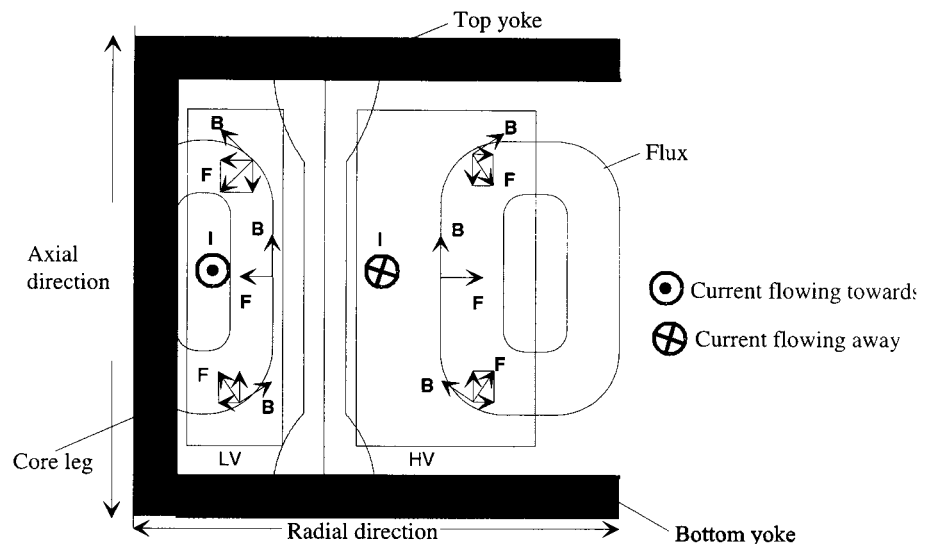
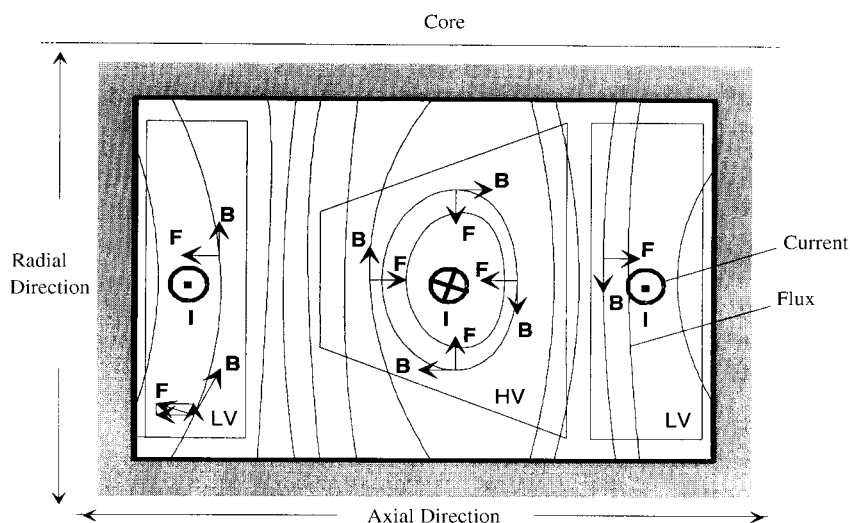

Figure 2.2 *Generated Forces in a Core Form Transformer*
Figure 2.3 *Generated Forces in a Shell Form Transformer*
The current flowing in transformer winding conductors sets up an electromagnetic field in and around the windings, as shown in the simplified sketches of Figure 2.2 and Figure 2.3. Any current-carrying conductor (I) which is linked by this field (B) experiences a mechanical force (F) which is perpendicular to the direction of the current and the field.
In a core form transformer, the forces act radially outward on the outer winding and radially inward on the inner winding, but because of the radial fringing at the ends of the windings, there are also axial force components which tend to compress the windings (Figure 2.2).
Whereas the principal forces in the core form design were radially directed, the principal forces in the shell form are axially directed (Figure 2.3). They tend to separate the low-voltage winding from the high-voltage winding, which pushes the low-voltage winding against the core. The high-voltage winding is being crushed inward upon itself. There are modest radial force components as well. These tend to compress the pancake winding sections radially.